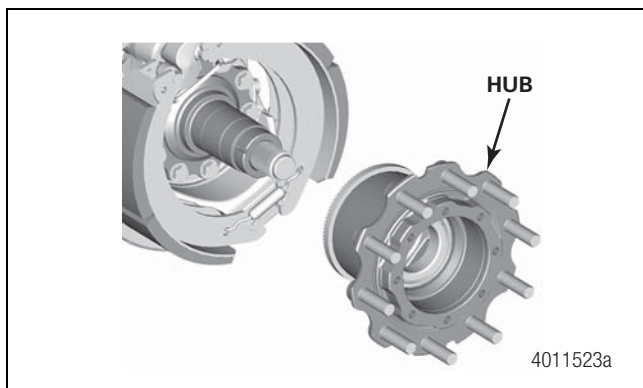

Figure 4.12
9. Remove the hub straight off the spindle. Prevent the outer bearing cone from falling when you remove the hub. Figure 4.12.